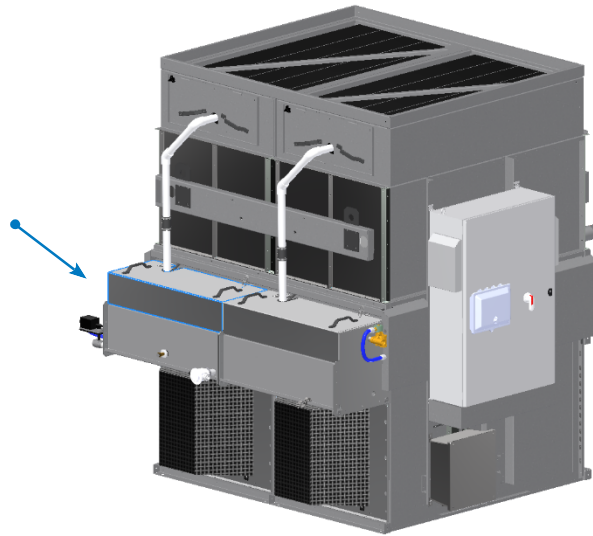

Figure 13. Location of Pump Wire
3. Remove the basin cover, then find pump wire stored within the basin. See **Figure 13**.